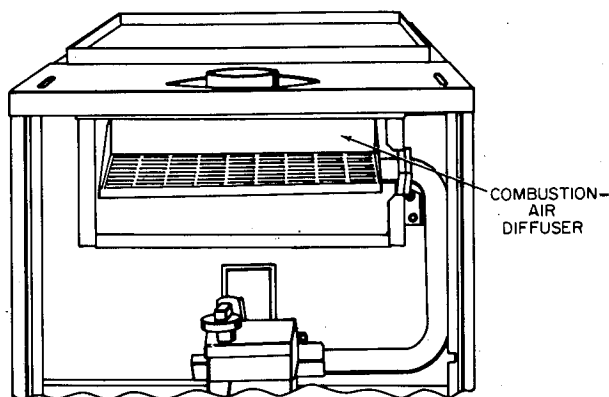

Fig. 3—Combustion-Air Diffuser Location
4. Remove combustion-air diffuser. (See Fig. 3.)
9. Reinstall combustion-air diffuser with vents to front. (See Fig. 3.)